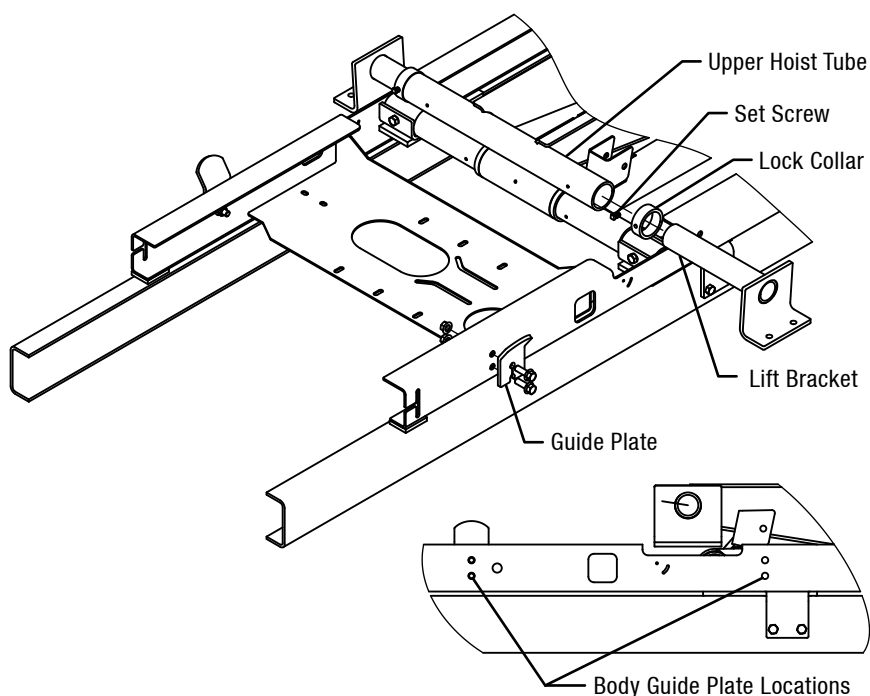

Figure 10: Lift Shaft Installation
7. Slide a lock collar onto each lifting shaft, and then slide the shafts into each end of the upper hoist tube (Figure 10).
8. Install a body guide plate onto each sub-frame rail using a set of bolt holes provided. Fasten guides using the supplied hardware (Figure 10).